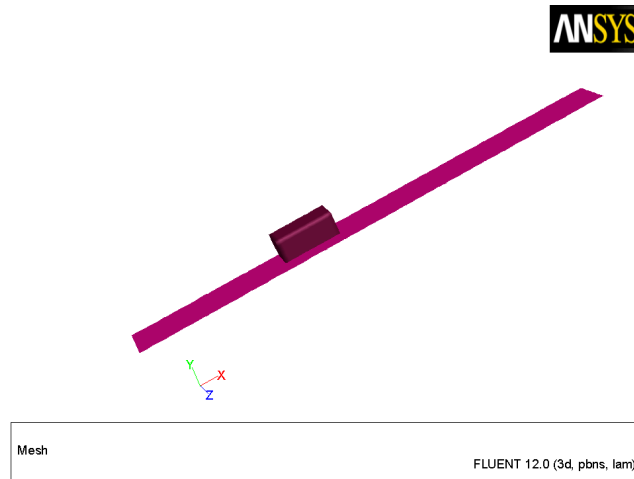

Figure 24.4: Display with Additional Lighting: - Headlight Off
*The **Headlight On** option provides constant lighting effect from a light source directly in front of the model, in the direction of the view. You can turn off the headlight by disabling the **Headlight On** option (Figure 24.4).*